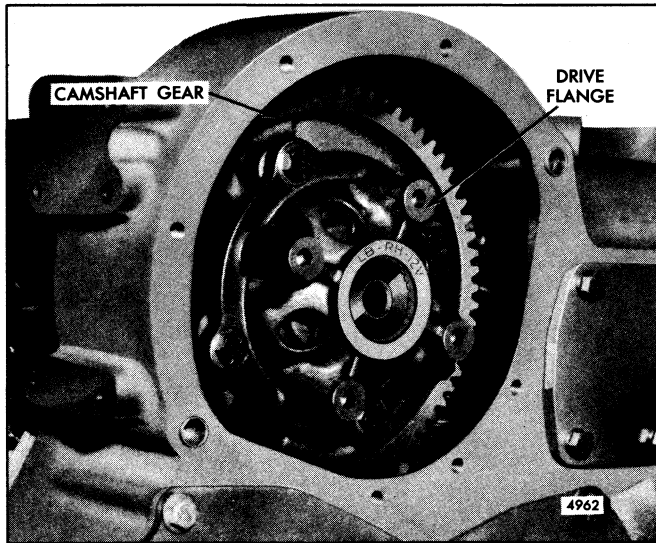

Fig. 9 - Former Camshaft Drive Flange
EXAMPLE - A flange stamped “LB-RH-12V” must be installed on the left-bank (LB) of a right-hand rotation (RH) 12V engine (Fig. 9).